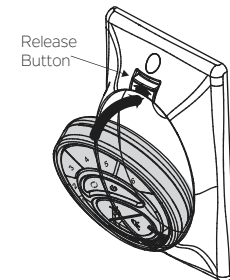

Fig. 29
Step 1. Insert the transmitter into the wall plate by inserting the bottom of the transmitter first and then pressing the top of the transmitter into the pocket. The transmitter will fully function from this location or you can remove the transmitter and use it as a hand held device. **(Fig.29)**